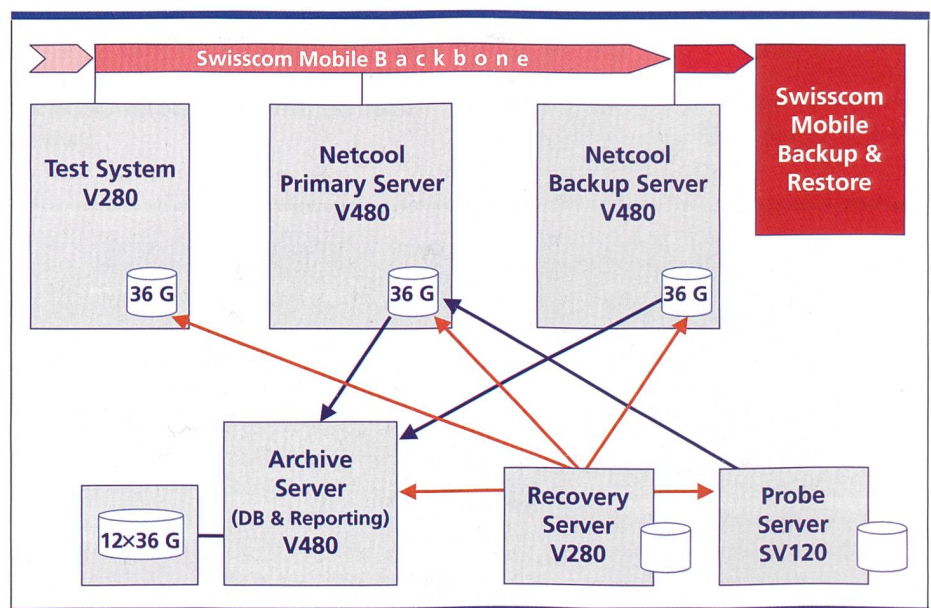

Fig. 3. HW Architecture.
According to figure 3, the basic HW delivered by Sun comprises six servers with different functions and is designed for a high operations security. The CAM HW Architecture is based on a production and a test environment. As the central HW instance of the latter, the Test Server makes it possible to test a new functionality or changed rules in the real environment without disturbing or endangering it. The Test Server even receives alarms from productive OSSs via the gateway that creates a „real-life“ impression of the current situation in the network. All other servers are part of the production environment. The Primary Server forms its centre and provides the basic CAM functions whereas the Backup Server takes over these functions in case of a Primary Server failure. The switching from the Primary to the Backup Server happens practically without any interruption for the user. In this case, a dialogue box appears on the screen and points the user to the HW failure. The Archive Server is responsible for the storage of historical data and runs an Oracle database (DB) internally. (Note: The Object Server (OS) within the Primary and the Backup Server employs a RAM DB for the storage of alarms.) The Probe Server contends the Probes for the systems for which no appropriate Probes are available and therefore could not be installed on them directly. Finally, the Recovery
Swisscom Mobile uses the following Sun HW (as indicated in fig. 3):